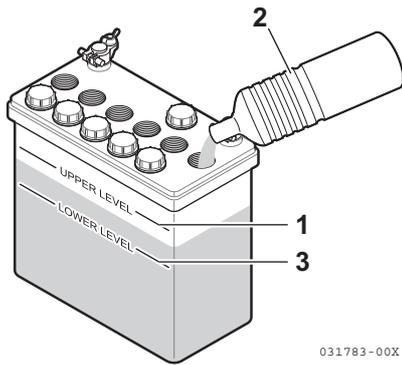

Figure 1
- When the amount of fluid nears the lower limit (**Figure 1, (3)**), fill with distilled water (**Figure 1, (2)**) so it is at the upper limit (**Figure 1, (1)**). If operation continues with insufficient battery fluid, the battery life is shortened, and the battery may overheat and explode. During the summer, check the fluid level more often than specified.